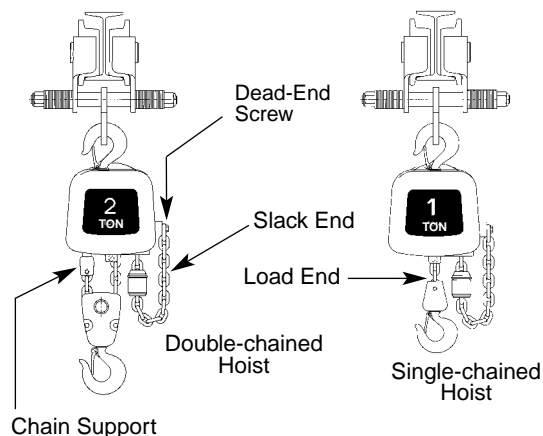

Figure 4 — Chain Replacement Diagram
4. Remove the load block assembly from the old chain. On double-chained hoists detach the chain from the chain support and pull it through the load block assembly (See Figure 4).
Refer to Figures 4 and 5.
6. Lay the new chain over the load sheave. Allow about 15" of chain below the hoist on the slack end (See Figure 4). Be sure the welds of the upstanding links are out away from the load sheave and that proper orientation is observed for attachment of the dead end. Also be sure the load hook assembly (if already attached to the chain) is toward the center of the hoist or to your right as you face the load sheave.
8. Place the motor coupling on the splined shaft and carefully fit the two hoist sections together. Be sure the dead-end nut, the top hook and the chain support (double-chained hoists only) are all in place. On single-chained hoists, the hook shank goes in the center hole; on double-chained hoists, it goes in the off-center hole (See Figure 4). Be careful not to pinch any of the wiring. Turn the hoist on its side and replace the four screws and tighten securely.